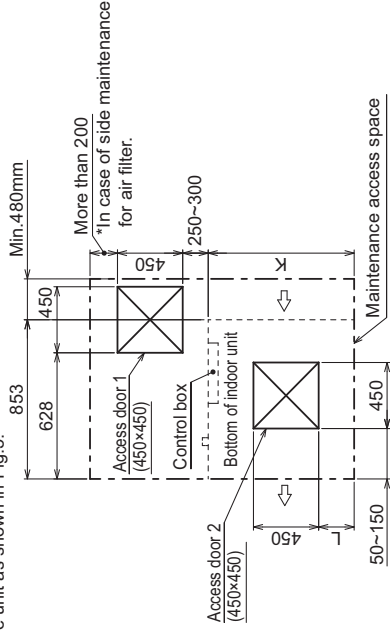

Fig.3 (Viewed from the direction of the arrow B)
- (2) When a space of less than 300mm is available below the unit between the unit and the ceiling. (At least 20mm of space should be left below the unit as shown in Fig.3.)